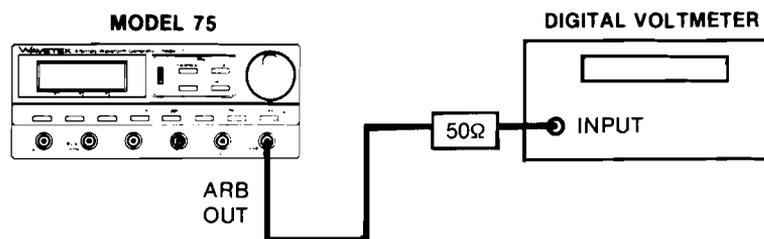

Figure 5-3. Offset Verification Equipment Connection
1. Interconnect the Model 75 and test equipment as shown in figure 5-3.